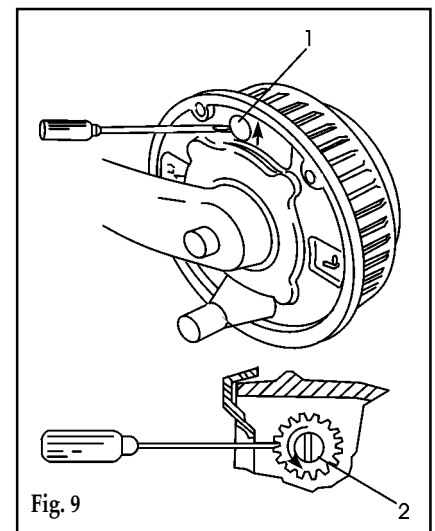

Fig. 9
- Hold the lock fast and lock (Fig 9).
- v. Always rotating the road wheel in the forward direction - never backwards; adjust the starwheel with a suitable screwdriver, in the direction of the arrow embossed on the backplate until there is resistance in the wheel rotation (fig. 9).
- vi. Slacken off the starwheel adjuster until the road wheel turns freely in the forward direction (fig. 9).